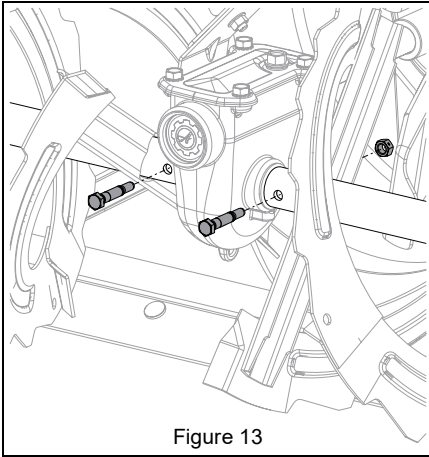

Figure 13
1. Remove shear bolt nuts and bolts. See Figure 13.
See Figure 13.